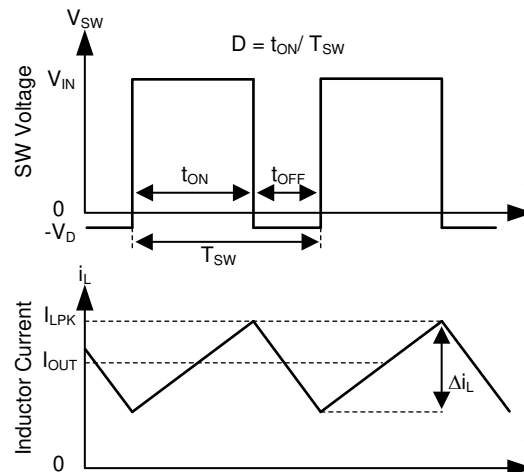

Figure 10-1. SW Node and Inductor Current Waveforms in Continuous Conduction Mode (CCM)
The following operating description of the TPS2583xA-Q1 will refer to the Functional Block Diagram and to the waveforms in Figure 10-1. TPS2583xA-Q1 is a step-down synchronous buck regulator with integrated high-side (HS) and low-side (LS) switches (synchronous rectifier). The TPS2583xA-Q1 supplies a regulated output voltage by turning on the HS and LS NMOS switches with controlled duty cycle. During high-side switch ON time, the SW pin voltage swings up to approximately V_{IN} , and the inductor current i_L increase with linear slope $(V_{IN} - V_{OUT}) / L$. When the HS switch is turned off by the control logic, the LS switch is turned on after an anti-shoot-through dead time. Inductor current discharges through the LS switch with a slope of $-V_{OUT} / L$. The control parameter of a buck converter is defined as Duty Cycle $D = t_{ON} / T_{SW}$, where t_{ON} is the high-side switch ON time and T_{SW} is the switching period. The regulator control loop maintains a constant output voltage by adjusting the duty cycle D . In an ideal buck converter, where losses are ignored, D is proportional to the output voltage and inversely proportional to the input voltage: $D = V_{OUT} / V_{IN}$.